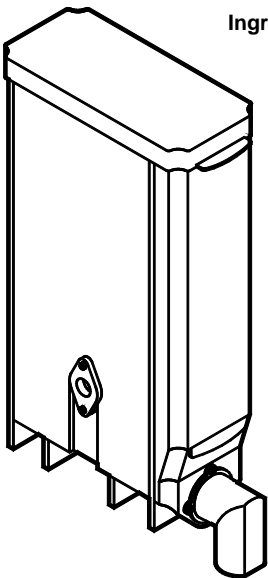

Fig. 2a
6. Open the door(s) and make certain that the product bins (Fig. 1) are securely seated in the machine. There is a pin on the bottom near the front of each bin (Fig. 2a) This pin seats in a hole in the metal deck that the bins rest upon. If the bin does not seat in the hole, remove the bin, rotate the auger drive (Fig. 2b) slightly, then try to engage the auger drive into the motor gears inside the rear of the cabinet. When the gear and drive properly engage, the pin at the front of the bin will seat into the hole.